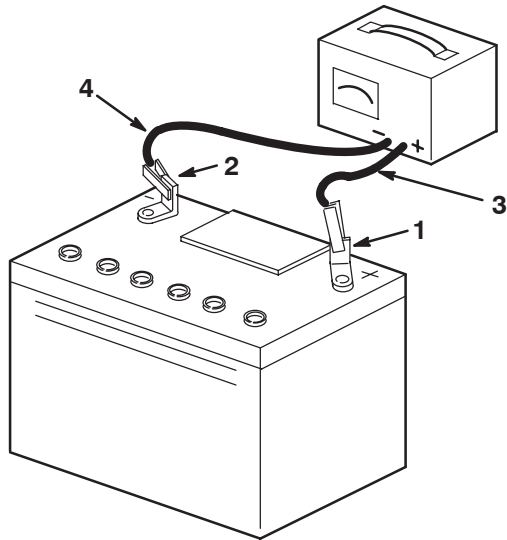

Figure 5
- Charge the battery for 10 to 15 minutes at 25 to 30 amps or 30 minutes at 4 to 6 amps (Fig. 5). **Do not overcharge the battery.**
- When the battery is fully charged, unplug the charger from the electrical outlet, then disconnect the charger leads from the battery posts (Fig. 5).